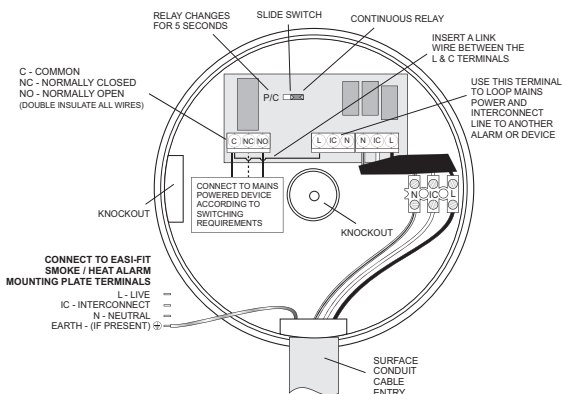
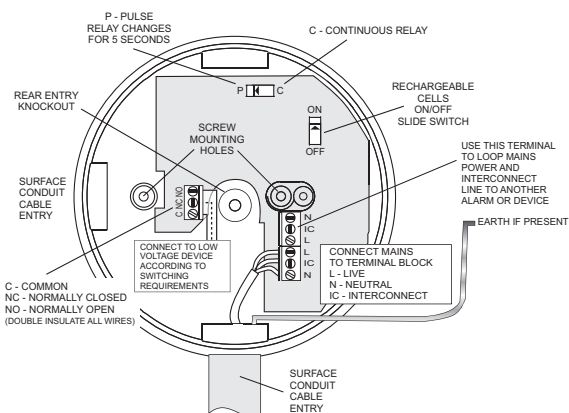

Figure 1a - Ei128R - Wiring details for connecting to a mains powered voltage device
Figure 1b - Ei128RBU - Wiring details for connecting to a low voltage or voltage free device
2. Screw the Relay Base to the ceiling after first removing the required knockout and bringing the house wires through it (see figure 1a for Ei128R & figure 1b for Ei128RBU). If the central knockout is being used, seal around the wires with silicone or similar to prevent air draughts affecting the smoke entering the alarm.
4. Connect the rechargeable cells (Ei128RBU only) by carefully and gently sliding the switch to the “on” position (see figure 1b). This switch must be in the ‘on’ position to ensure correct operation.
2. Screw the Relay Base to the ceiling after first removing the required knockout and bringing the house wires through it (see figures 1a & 1b).
3. Connect the three wires (L - Live, N - Neutral and IC - Interconnect) from the Carbon Monoxide / Smoke / Heat Alarm to the alarm relay module as shown in figures 1a & 1b. The IC - Interconnect wire must be connected even if it is a single alarm installation.
As an Easi-fit Alarm is not being mounted on top of the Relay Base, remove the three cables (for the Easi-fit Alarm connection) from the terminal block and discard (see figures 1a & 1b).
Connect the wires to the required relay contacts for controlling the auxiliary device (the contacts are isolated and are rated at 250VAC, 5 Amps resistive). If momentary (pulse) relay operation is required, carefully and gently slide the yellow switch to the 'P' position with a small screwdriver (see figures 1a & 1b).
If your Relay fails to work after you have carefully read all the instructions, checked that the unit has been installed correctly, and is receiving AC power, then contact Customer Assistance at the nearest address given at the end of this leaflet. If it needs to be returned for repair or replacement, remove the unit and turn off the rechargeable cells with slide switch (*see Figure1b*). Put the Relay in a padded box and send it to "Customer Assistance and Information" at the nearest address given on the unit or in this leaflet. State the nature of the fault, where the Base was purchased and date of purchase.